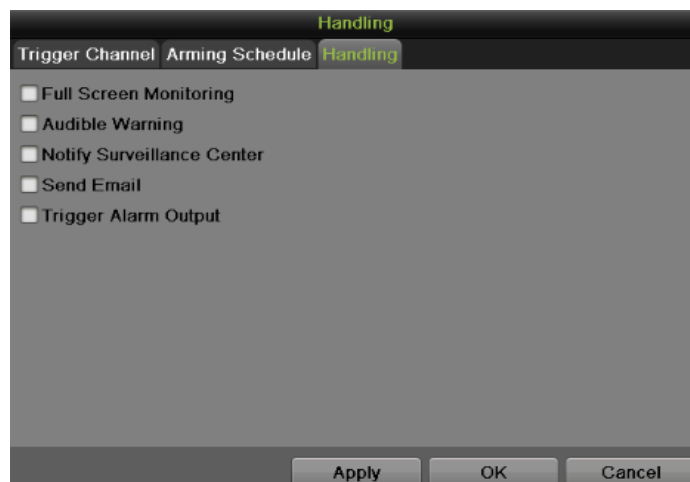

Figure 134 Handling Settings Menu
- 3) Select the Handling tab, as shown in **Figure 134**.